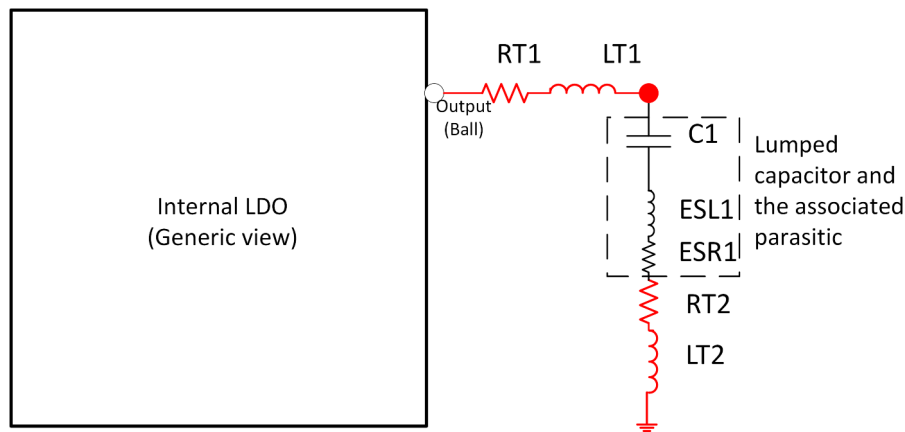

Figure 7-4. Parasitic offered by different portion of the output path (for one capacitor)
1.2V Digital LDO requires one decoupling capacitor with a typical value of 4.7uF. The parasitic offered by different portion of the output path is illustrated in Figure 7-4. “RT1” and “RT2” are parasitic resistances offered by the ball to capacitor lead trace and the ground trace respectively. Similarly, “LT1” and “LT2” are parasitic inductances offered by the ball to capacitor lead trace and the ground trace respectively. “ESL1” and “ESR1” are the effective series inductance and resistance of the decoupling capacitor. Table 7-5 gives the minimum, maximum and typical values of the capacitance and the parasitic.